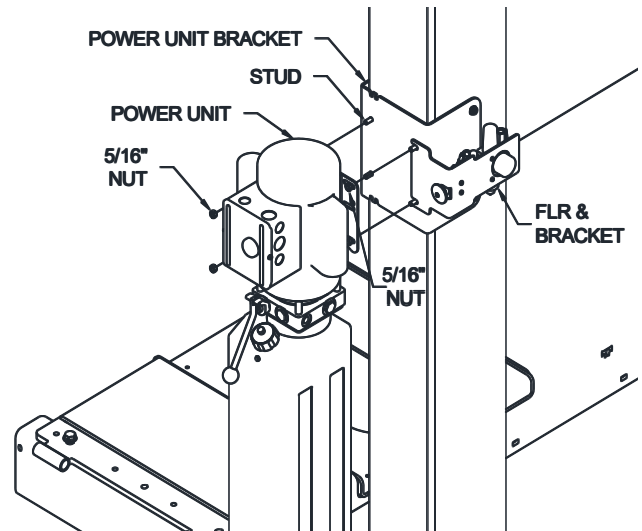

Fig 15b – Power Unit Bracket & Power Unit Mounting
- 35) Note the Power Unit bracket is welded on the Closed Front Power Column. Place the power unit on the studs and start to thread each nut on just to hold the power unit on the studs. Slip the FLR mounting bracket behind the power unit and tighten all 4 nuts down. See Fig 15b.